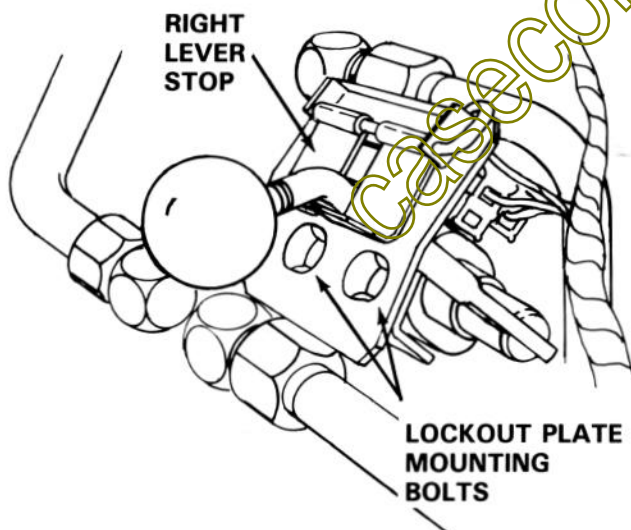

FIGURE 8
2. Install the PTO lockout plate assembly (23) to the valve bracket as shown in figure 8 using two (2) each 5/16 - 18 x 1/2" hex bolts (25). (NOTE: DO NOT tighten at this time.)
4. Remove blank from shift cover, and re-install cover with four (4) each phillip head screws removed in preparation steps. Install shift and PTO knobs.
5. Re-install screen on right side of steering tower with four (4) each phillip head screws.
1. To engage PTO; lift right LEVER STOP and slowly move the PTO LEVER to the right see figure 8. As the attachment increases in speed, continue moving the lever to the right and up until it is in the detent position. (NOTE: DO NOT move the PTO LEVER to the left unless your attachment permits reverse operation. Motor damage may occur. (Consult your attachment owners manual.)